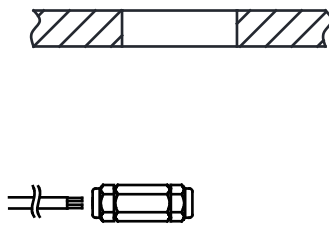

Fig 1.2
1.2 Connect the 12V supply cable via waterproof junction box or connector. (See Fig 1.2)